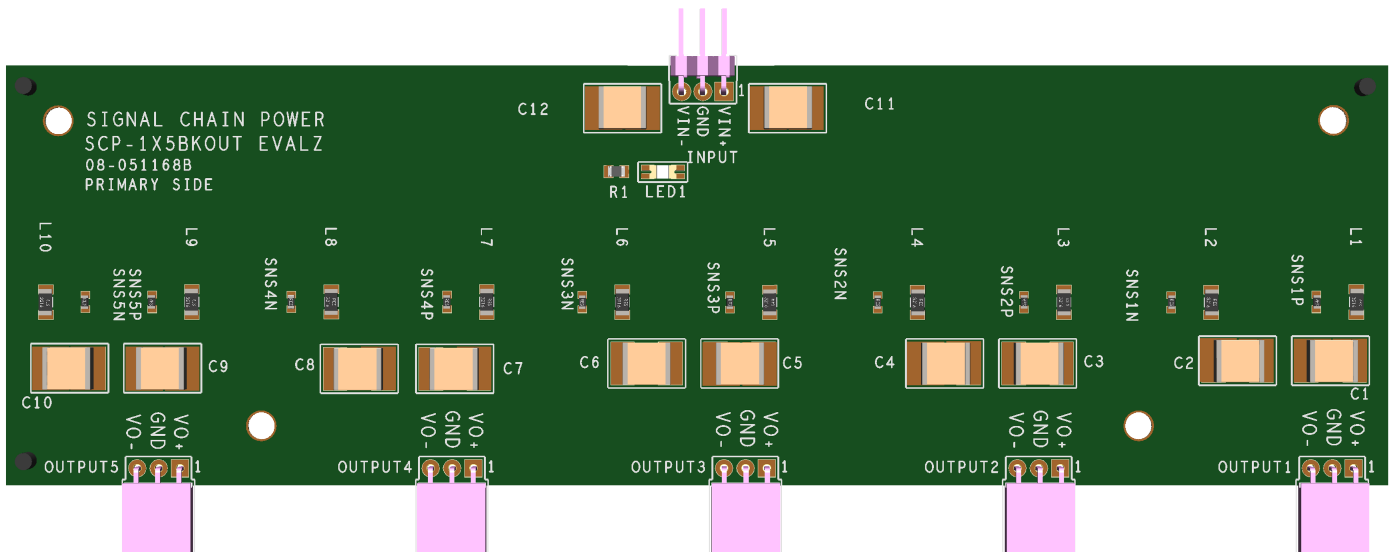

Figure 2. Proper Measurement Equipment Setup (Use SMA connectors for Measuring Input or Output Ripple)
2. Connect the SCP-INPUT-EVALZ and SCP-OUTPUT-EVALZ boards to the SCP board under evaluation refer to Figure 2) and connect the input board to a voltage source, V_{SOURCE} . Connect the output board to a voltmeter or dynamic load. Slowly raise the input voltage until the SCP-1X5BKOUT-EVALZ powers up the device under test into regulation and sweep V_{SOURCE} through the desired range of operation.